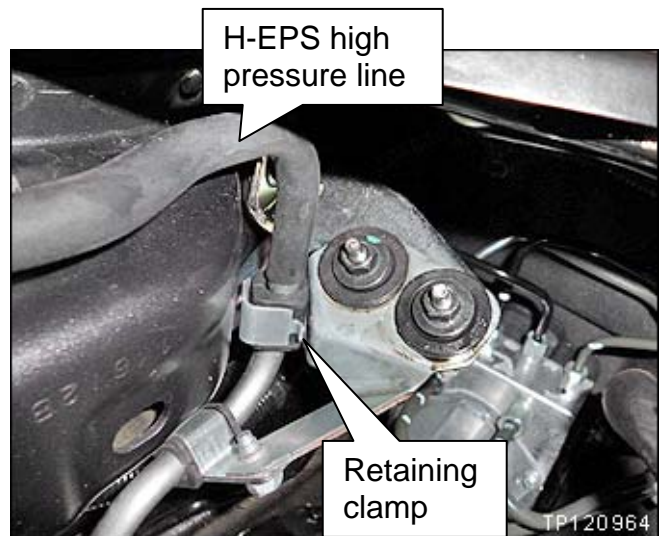

Figure 9
Check the H-EPS high pressure line retaining clamp shown in Figure 9.
- Figure 9 shows a clamp that **is not** secured correctly.
- If the clamp is loose like the one shown in Figure 9, replace the H-EPS high pressure line.